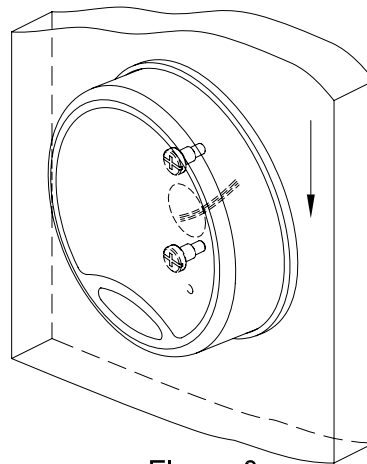

Figure 9
4. Slide the entrapment into the mounting screws until a click is heard. The entrapment should be locked into place and should not move in either direction. Make sure that the cable will not rub or tangle on mounting screws. (Figure 9)